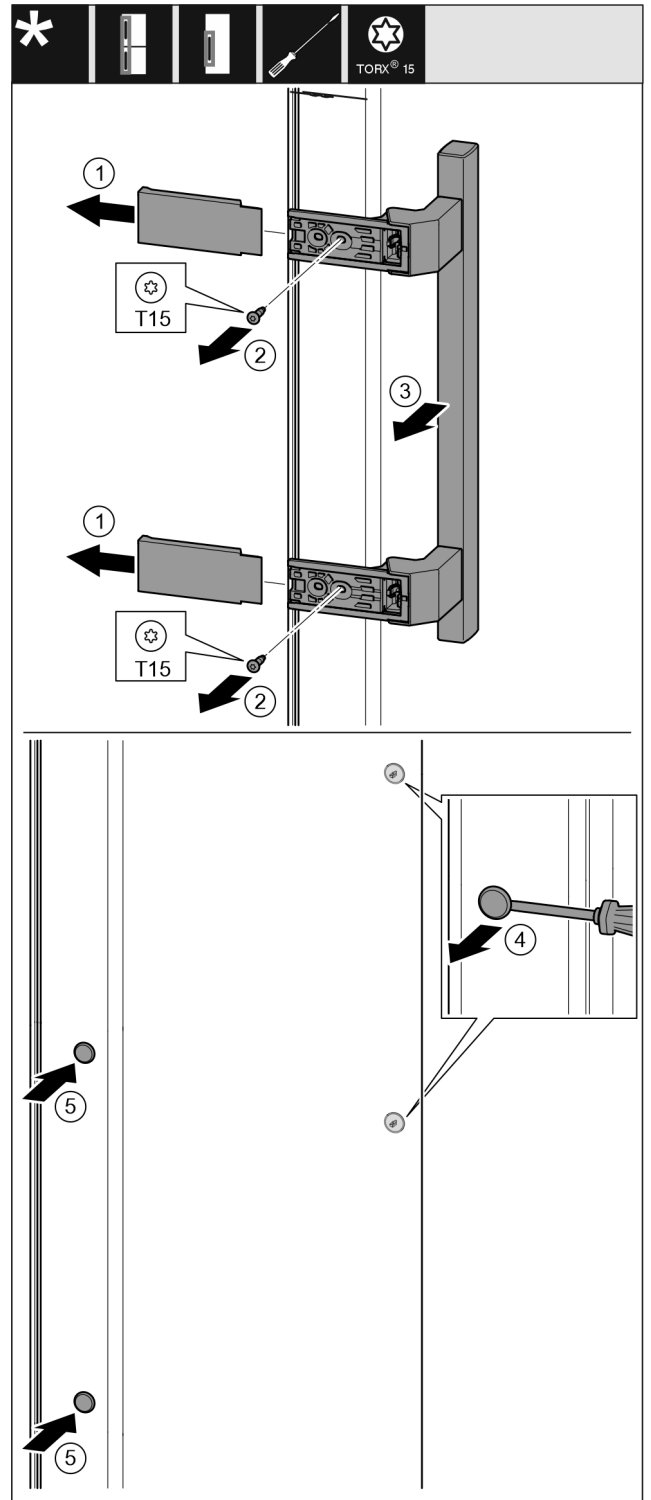

Fig. 14
- ▶ Pull off the cover. Fig. 14 (1)
- ▶ Unscrew the screws with a Torx 15 screwdriver. Fig. 14 (2)
- ▶ Take off the handle. Fig. 14 (3)
- ▶ Carefully lift the side plug with a slotted screwdriver and pull it out. Fig. 14 (4)
- ▶ Replace the plug on the other side. Fig. 14 (5)